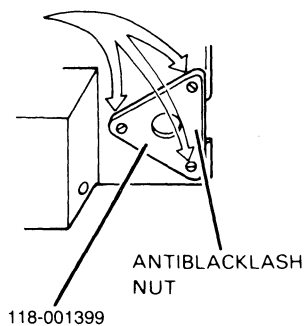

Figure 5.11 Anti-backlash Nut Removal
7. Remove the three screws securing the antibacklash nut (see Figure 5.11).